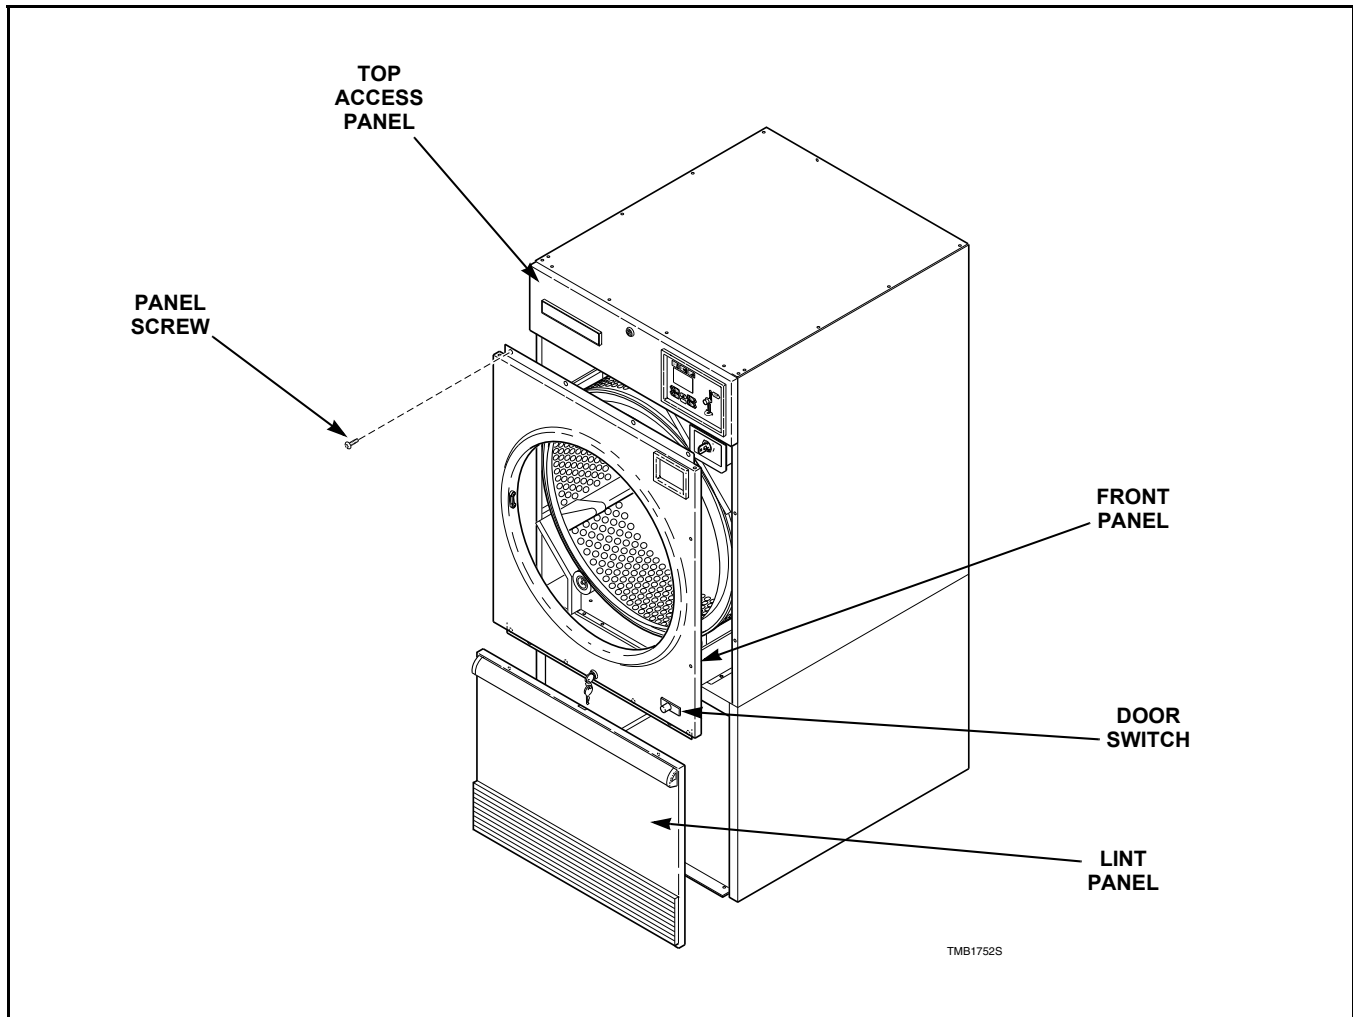

Figure 4
Refer to *Figure 4*.
- b. Remove screws from bottom of front panel. Refer to *Figure 4*.
- Remove screws from top and sides of front panel and loosen screws at bottom of front panel. Refer to *Figure 4*.
- Unlock top access panel over control and remove. Refer to *Figure 4*.